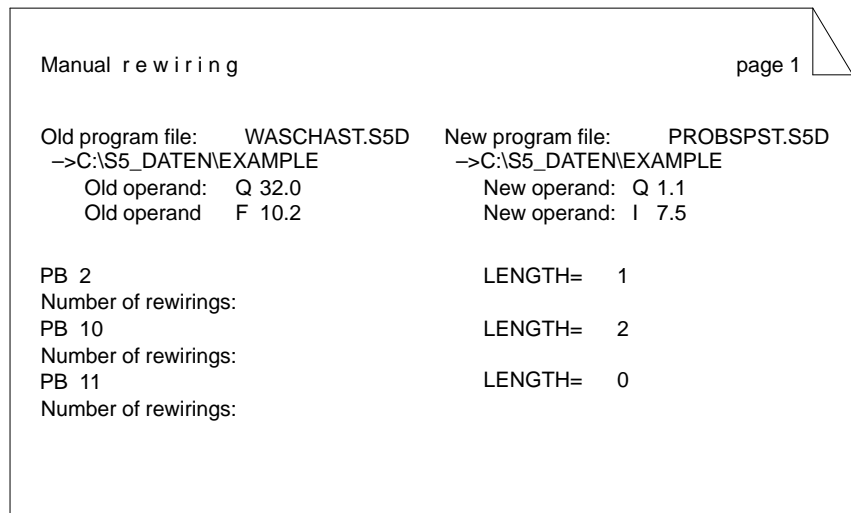

Figure 17-4 Printout Following Manual Rewiring (Example)
STEP 5 now renames the operands and displays the name of the block being processed in the *Manual rewiring* screen form (see *Figure 17-4*).